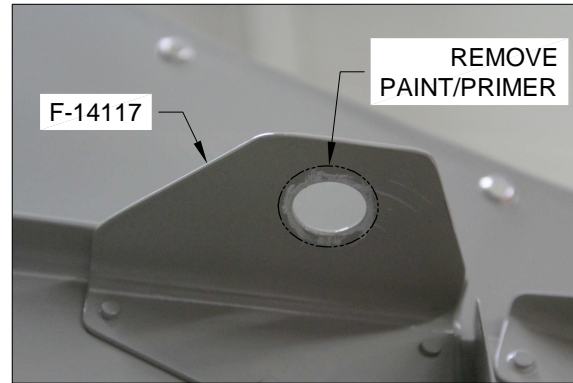

FIGURE 1: BRACKET PREPARATION
Step 1: Clean or sand off any paint/primer to expose the bare metal on the bottom of the F-14117 ELT Antenna Bracket where the attaching washer and nut will make contact. See Figures 1 & 2.